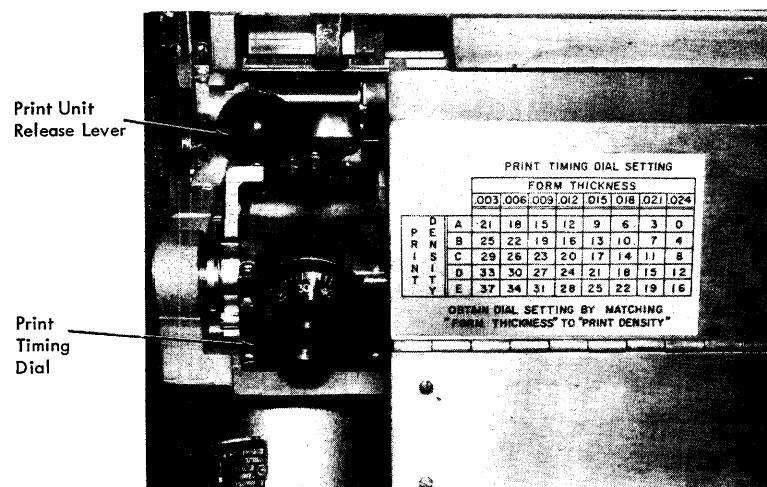

Figure 22. Print Timing Dial and Print Unit Release Lever
Print Timing Dial - This dial (Figure 22) should be set to obtain the best printing quality for each run. The setting varies with the thickness of forms being fed and with the setting of the print density lever. A print-timing dial chart (Figure 23) on the ribbon cover gives the setting for eight different thicknesses combined with five
Print Unit Release Lever - Pulling this lever (Figure 22) toward you releases the print mechanism. Then swing open the mechanism to gain access to the forms transport area. When closing the print unit, push this lever firmly, as far as it will go, to latch the unit in place.
3. Unlock and swing back the print unit by pulling the print-unit release lever (Figure 22) toward you.